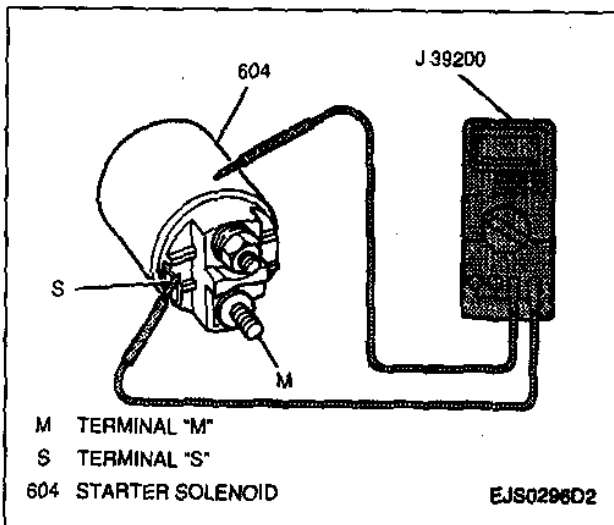

Figure 29—Measuring Starter Solenoid Pull-In Coil Resistance
9. Starter solenoid pull-in coil resistance between terminal "S" and terminal "M" using the J 39200 (Figure 29). If resistance is not 5.0 ohms or less, the pull-in coil is open and the starter solenoid must be replaced.